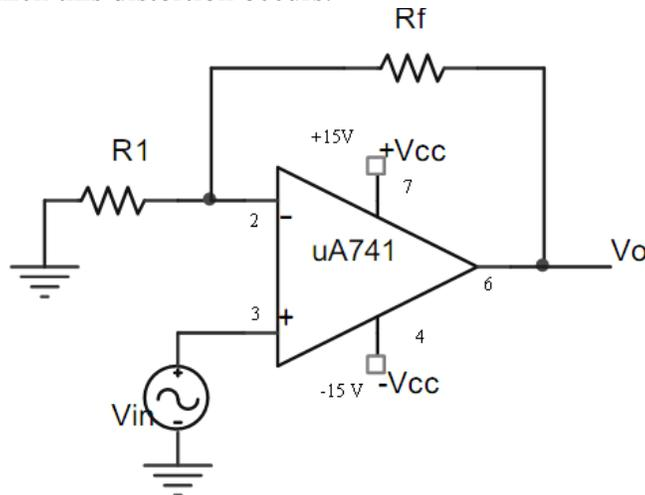

Fig. 7.2
- Construct the non-inverting amplifier as shown in Figure 7.2. Use  $R_f = 10 \text{ k}\Omega$  and  $R_1 = 1 \text{ k}\Omega$